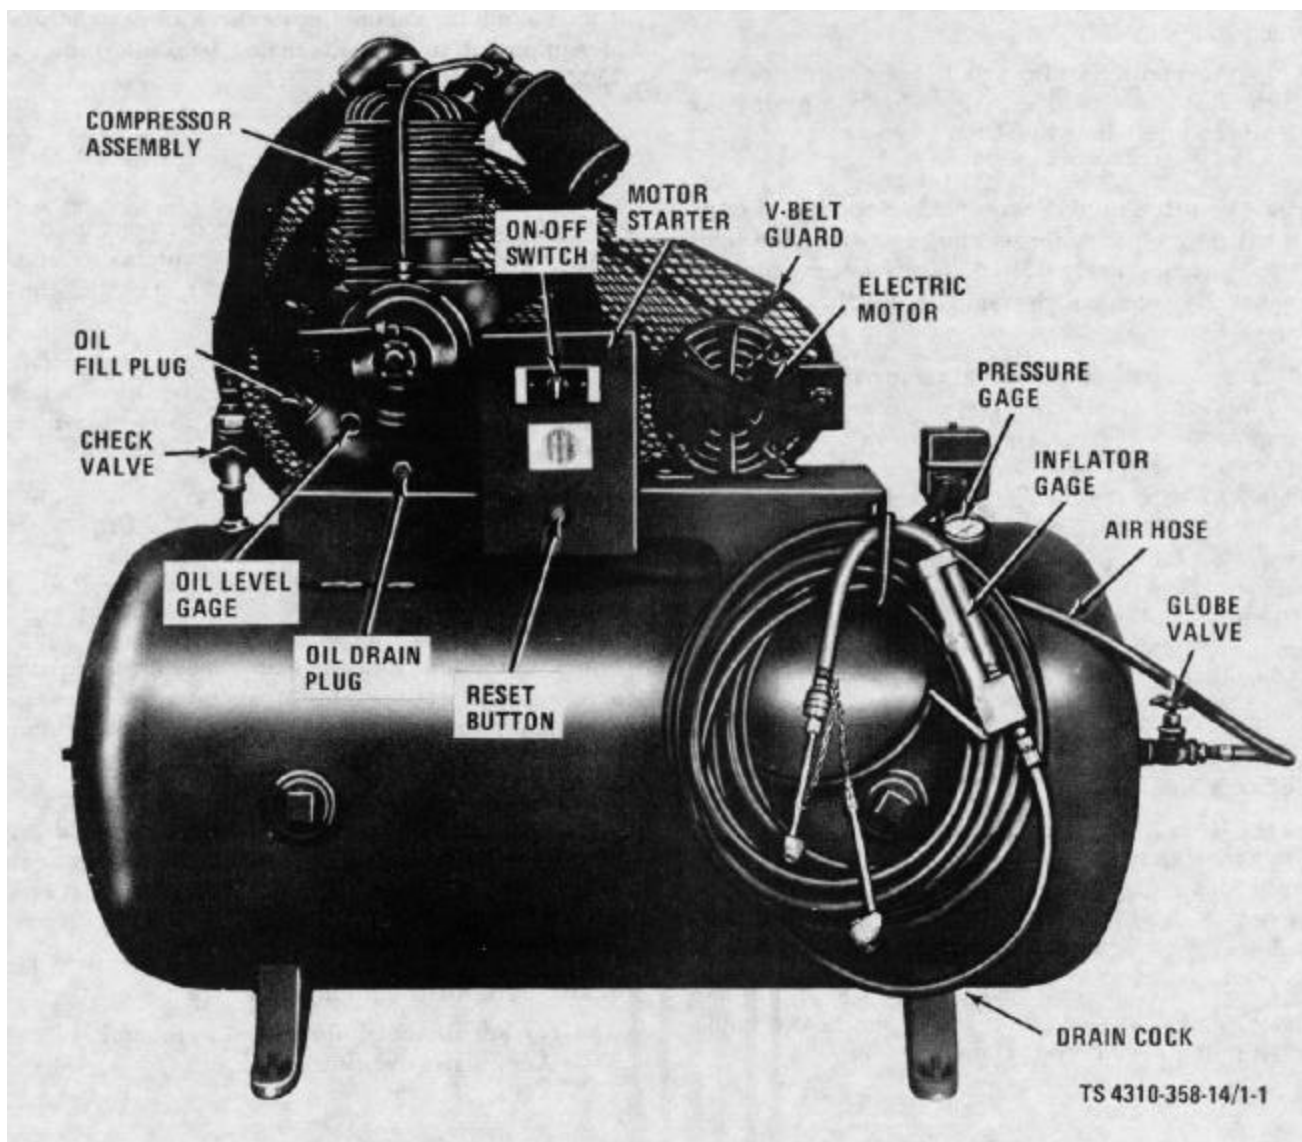

Figure 1-1. Air Compressor, right side view.
a. The HR2-6M-2 (Fig. 1-1 and 1-2) is a two cylinder, reciprocating type air compressor capable of delivering 5 cubic feet per minute (0.1415 cu meters per min). The compressor assembly and associated electric motor are mounted on a frame which is welded to the air receiver, and 60 gallon steel tank. The electric motor drives the compressor assembly by means of a matched pair of V-belts.